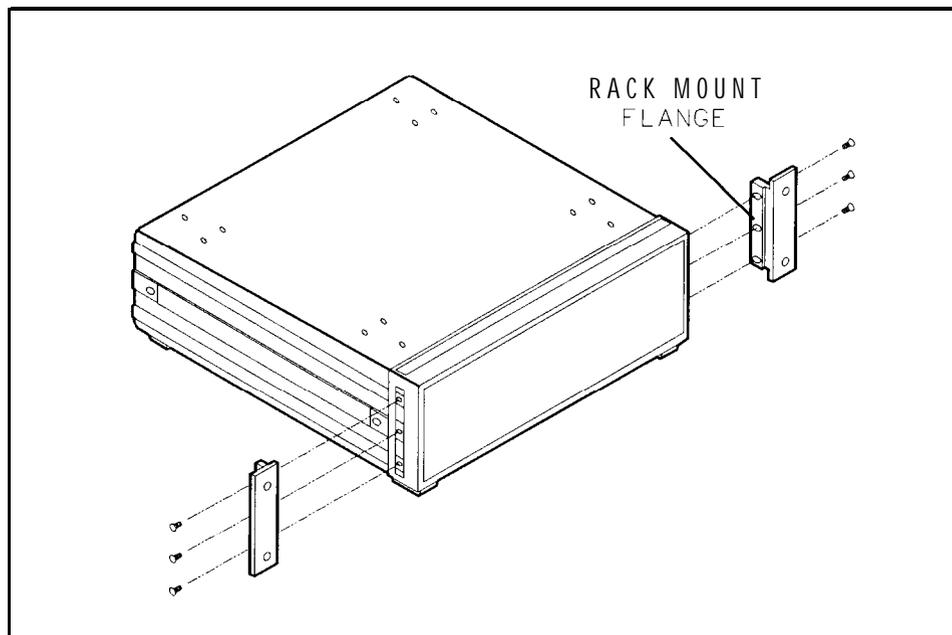

Figure 2-5. Attach the Rack Mount Flanges
4. On each instrument section, attach the rack mount flange (and front handles for Option 913) using the three M4x0.7x16 pan-head screws provided in the kit. See Figure 2-5.